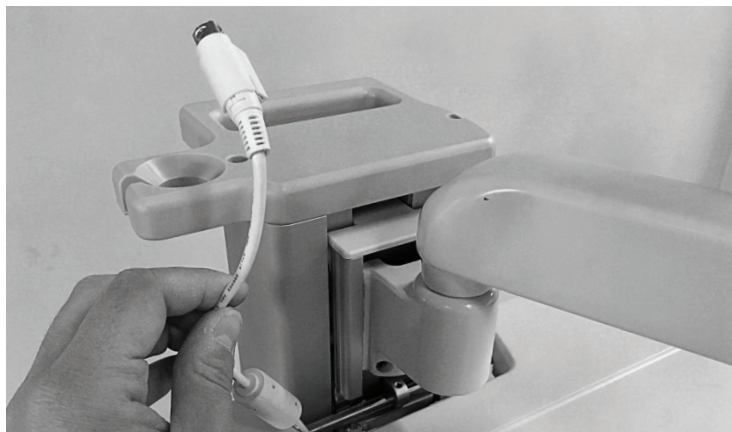

Figure 10: Thread the Power Cord
2. Thread the Power Cord through the space between the Bedside Table and the Variable Height Column. See Figure 10.